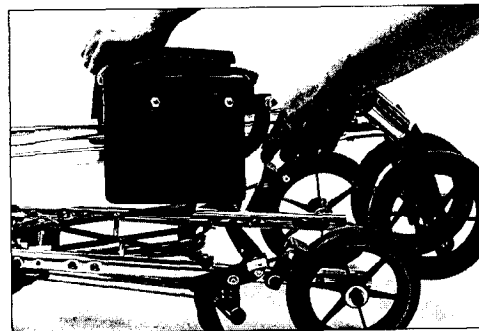

Fig.95
3. Lean chair backwards on rear wheels and push on seat tubes or footplates to complete fold. **Fig.95**